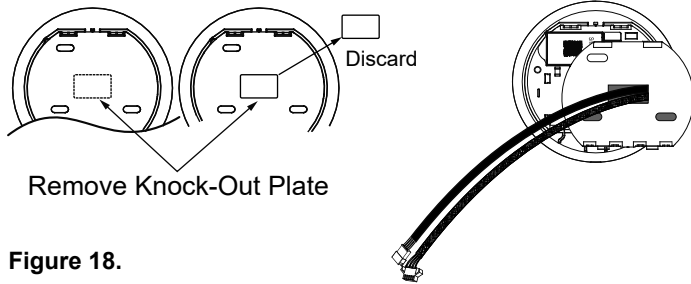

Figure 18.
6. For rear exit of Backing Plate, remove and discard the perforated rectangle Knock-Out Plate as shown in Figure 18.